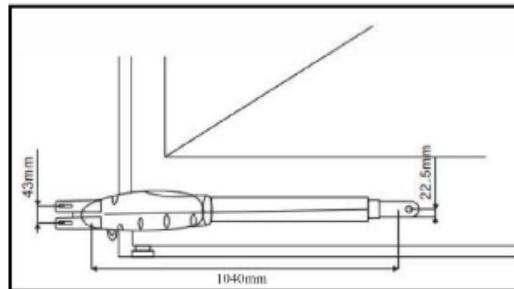

Figure 11
- 10) Refer to Figure 11, the distance between front plate of the motor and rear plated is 798mm, the difference in height is 22.5mm